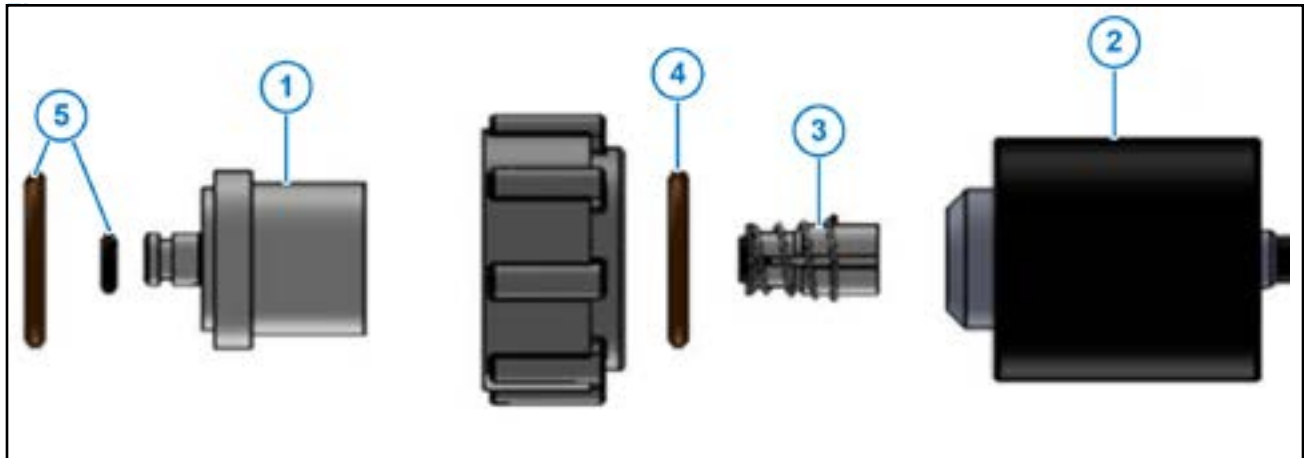

Figure 53: Nozzle Valve
2. Use pliers or other appropriate tool to hold the valve body (Figure 53, Item 1) so that the assembly coil harness faces the ground.
3. Rotate the coil (Figure 53, Item 2) counter-clockwise to remove the coil from the valve body.
4. Remove the plunger (Figure 53, Item 3) from the coil.
5. Inspect the O-ring (Figure 53, Item 4) on the coil.
6. Inspect the O-rings (Figure 53, Item 5) on the valve body.